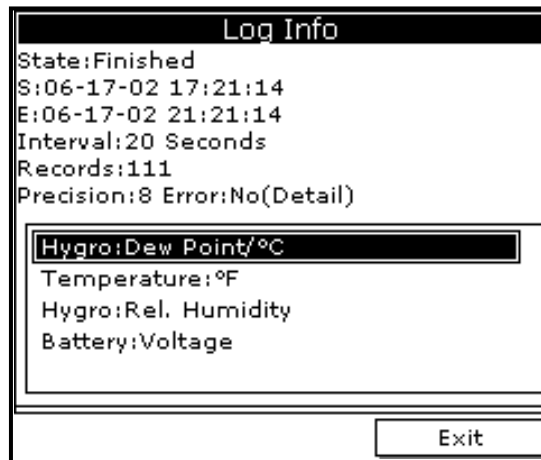

Figure 38: Log Details
4. Use the arrow key to scroll to Details and press **[ENTER]**. A screen similar to *Figure 38* on page 44 appears.